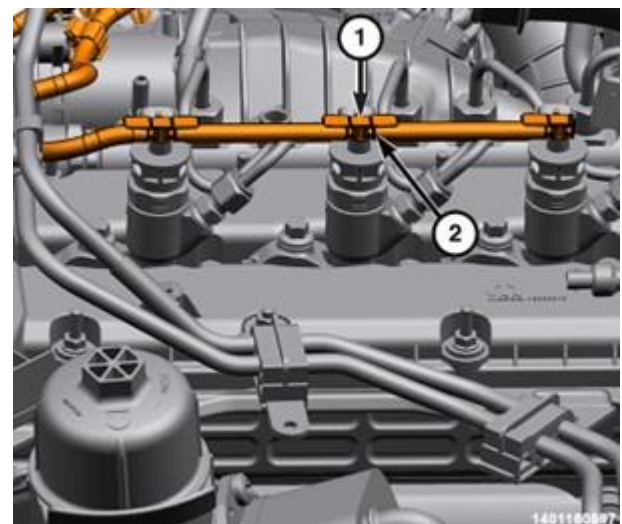

Figure 25 – Fuel Return Lines and Locking Tabs
47. Lift up on the locking retaining tab (1) to unlock the lock (Figure 25).
48. Disconnect the fuel return line (2) by wiggling the hose free from the fuel injector (Figure 25).